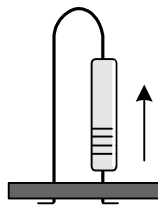

Fig. 1-1 Carbon film resistor (R7)
- The carbon film resistor (R7) to be placed in an upright position shall be mounted in a way that the color code can be read from the bottom upward (Fig. 1-1). Also, the diode (D5) shall be mounted according to the assembly drawing for the printed board (PB1).